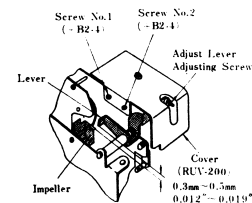
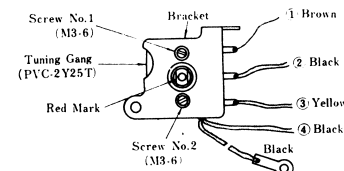

Fig. 3
Fig. 5
To Remove Auto-Tuning Mechanism Unit (Refer to Figs. 3~5)
3. Remove two (2) relay and relay cover mounting screws, Nos. 1~2, as illustrated in Fig. 3.
5. Unsolder leadwires, Nos. ①~④, to tuning gang, as illustrated in Fig. 5.
- (A) When stringing dial cord, refer to dial cord stringing instructions on page 4.
- (B) After mounting relay, adjust Lever Adjusting Screw (Fig. 3 of page 3).
To Remove Relay (Refer to Figs. 3 & 6)
2. Remove two (2) relay and relay cover mounting screws, Nos. 1~2, as illustrated in Fig. 3.
After mounting relay, adjust Lever adjusting screw (Fig. 3 of page 3).
1. Wind the spring with the key (2 or 3 turns clockwise).
3. Adjust Lever Screw so that air gap between impeller and lever becomes 0.3 mm~0.5 mm (0.012"~0.019") as illustrated in Fig. 3.
6. Unsolder leadwires to tuning gang, (Nos. ①~④) as illustrated in Fig. 5.
7. Remove two (2) tuning gang mounting screws, Nos. 1~2, as illustrated in Fig. 5.